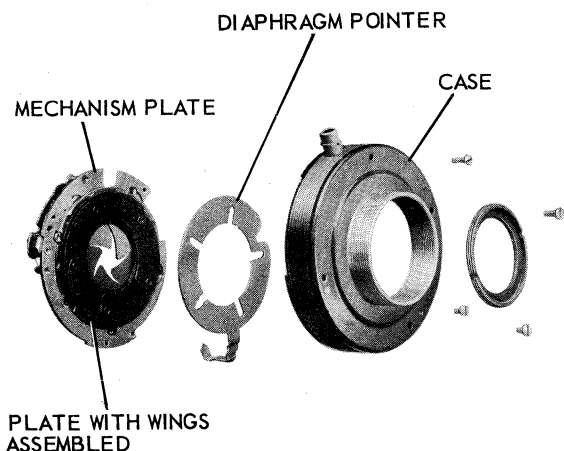

Figure 31
12. MECHANISM PLATE, figure 31.
8. The shutter CASE, figure 31, and the DIAPHRAGM POINTER should be thoroughly cleaned.